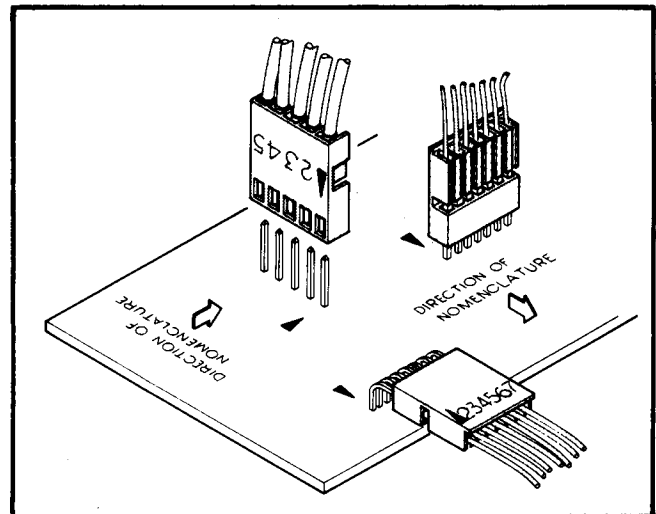

Fig. 6-1. Multipin (harmonica) circuit board connectors.
**Multiple Terminal (Harmonica) Connector Holders.** Most intercircuit connections are made through pin connectors that may be mounted in a harmonica type holder. The terminals in the holder are identified by numbers that appear on the holder and the circuit diagrams. Connector orientation to the circuit board is keyed by triangles on the holder and the circuit board (see Fig. 6-1). Some connectors contain more than one section. All connectors are identified on the schematic and board with "P" numbers.